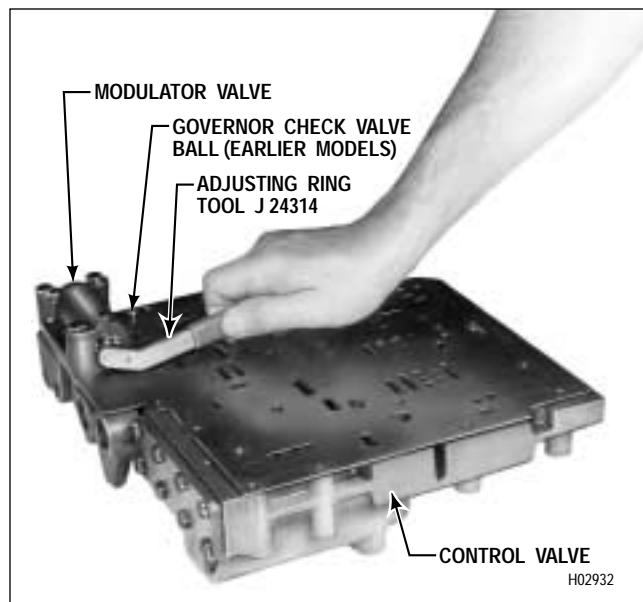

Figure 6-21. Adjusting Modulator Valve Ring
(18) Install three 1/4-20 x 1 3/4 inch bolts 3 to retain valve body 10 and separator plate 2. Tighten the bolts to 8-12 lb ft (11-16 N·m). The assembled valve body is shown in Figure 6-21.
(19) Install selector valve 53 (Foldout 11) into the assembled valve body and retain it with a rubber band, tape, or soft wire to prevent its dropping out during handling.
(20) Use special tool J 24314, recheck the positions of all adjusting rings (Figure 6-21) with the positions recorded before disassembly.
(21) For ease of handling, install valve body lifting tool J 29863 into the drilled boss in the center of the valve body. Put the assembled valve body into a plastic bag or other dirt-proof, lint-free wrapping until ready to install it.